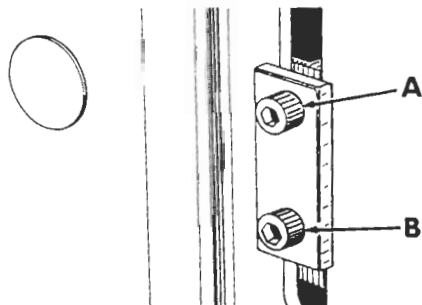

Figure 1
2. Loosen screws (A and B, fig. 1).
4. Tighten screws (A and B, fig. 1).